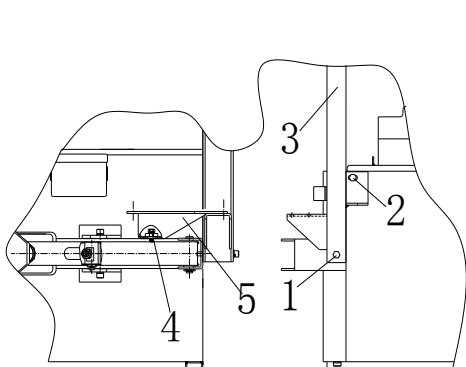
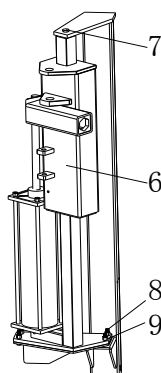

Fig 7
Fig 8
- 2) Install the column 3 with screw 1 and 2; install the support 5 of the auxiliary arm with screw 4; (Fig 7)
- 3) Install the help arm 6 with nut 7 and screw 9, then tighten 4、7、8、9 (Fig 7 、 Fig 8) ;